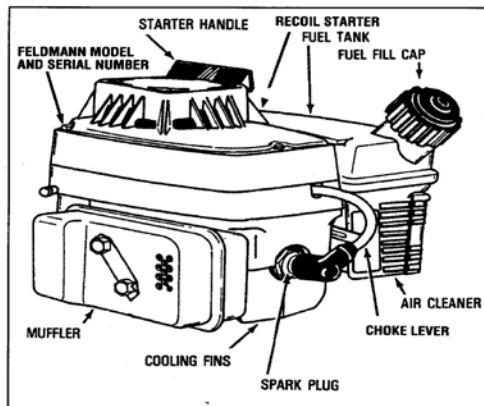

Figure 1
3. Grasp **STARTER HANDLE** (see figure 1) and pull slowly until you feel the rewind engage, then give the handle a brisk, strong pull. **DO NOT** wrap the starter rope around you hand. **DO NOT** let starter rope snap back, rather guide it slowly into the housing to allow proper rewind.